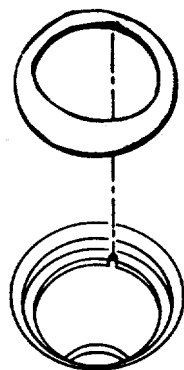

FIGURE 4-28. Air Deflector Replacement.
- (6) If inside diameter is not within specification, machine the valve seat insert bore for an oversize seat. A press fit within 0.0025 to 0.0045 inch (0.064 to 0.114 mm) between the valve seat insert and the bore must be maintained.
- (7) Install air flow deflectors in intake ports. Ensure tang on the deflector is in alignment with the hole on the notch in the head FIG. 4-28.